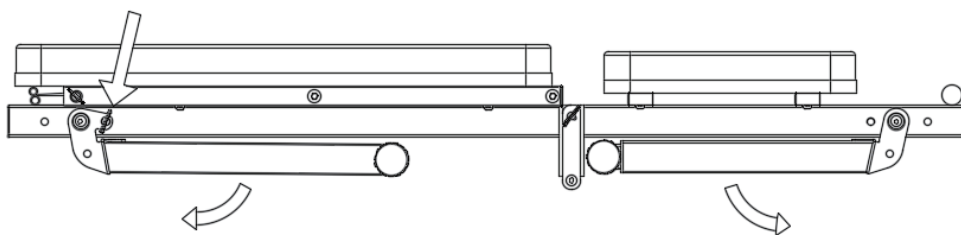
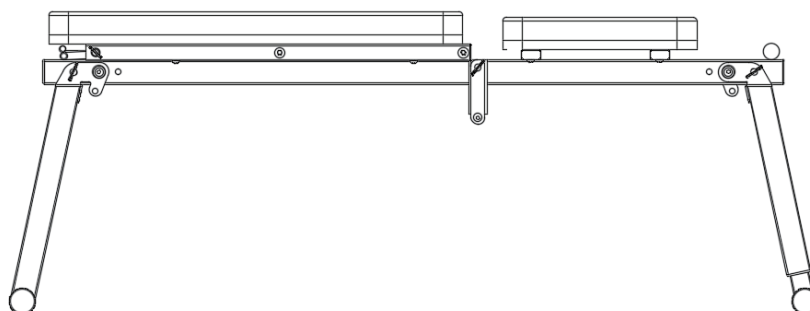

Figure 2
Figure 3
3. Rotate it in the direction shown by the rotation arrow to the state shown in Figure 2 and insert the pulled out pin to fix it;
4. Pull out the pin shown by the arrow in Figure 2, rotate it in the direction shown by the rotation arrow to the state shown in Figure 3, and insert the pulled out pin to fix it.